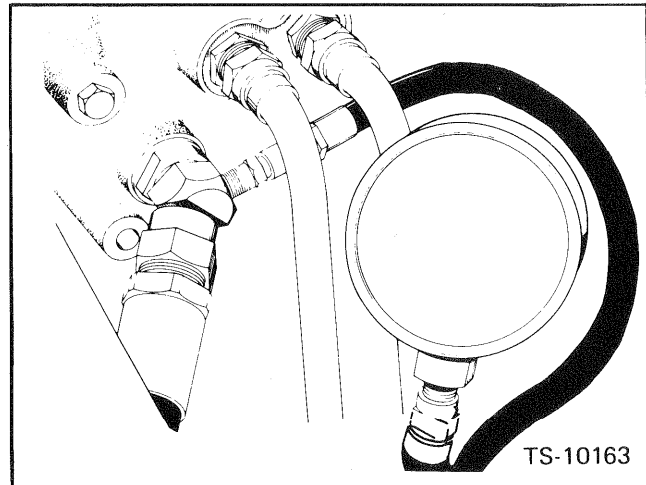

Fig. 11-2 Main Relief Valve Pressure Check
1. Remove the floor panel and attach a hydraulic gauge of at least 3,000 p.s.i. capacity to the hose fitting on the main control valve. Fig. 11-2
6. Put the ARCH into its full up position and hold. The gauges should register 2,000 p.s.i. at 2,000 rpm with the steer-blade relief valve temporarily set at 2,300 p.s.i. If not, adjust the relief valve on the arch and grapple control valve by removing the acorn nut, loosening the jam nut and adjusting the set screw located on the forward side of the valve assembly until 2,000 p.s.i. registers on the gauge. Fig. 11-2. Release the arch control lever.
7. Put the BLADE into its full up position and hold. Re-adjust the main relief pressure on the steer and blade control valve to 2,000 p.s.i. Fig. 11-2. Release the blade control lever.